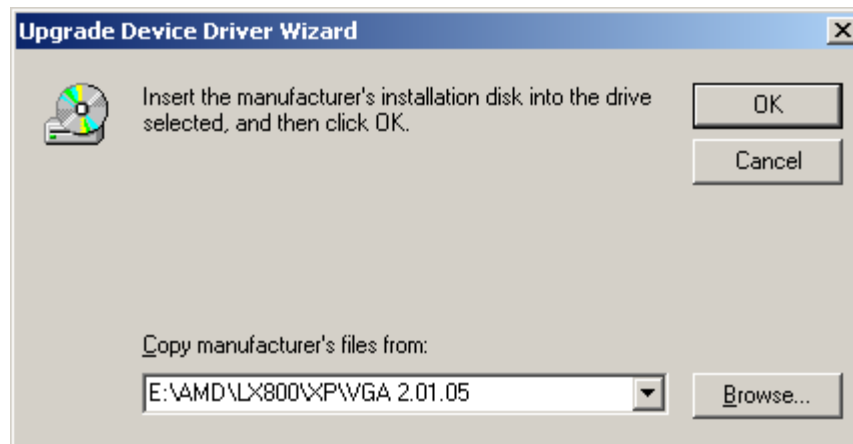

Figure 7-12: Location Browsing Window
Step 10: Click **Browse** and navigate to the **X:\AMD\LX800\XP\VGA 2.01.05** directory, where “X:” is the system CD drive (Figure 7-12).